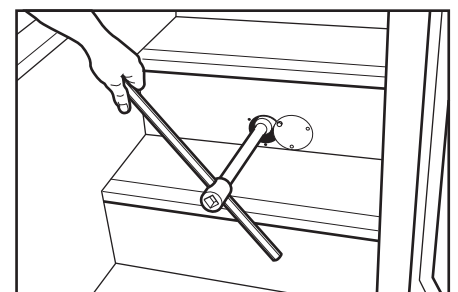

Fig. 5
5. Slowly let the tire down by turning the wrench clockwise. Being careful not to let the handle hit the side of the stepwell. Centering the handle in the lugwrench will help (Fig.5).